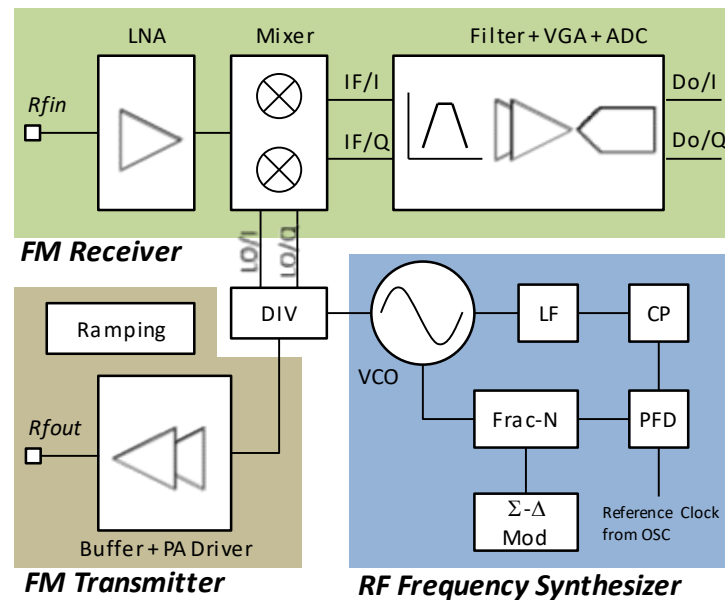

Figure 2. Radio Block Diagram
channel filtering, a variable gain amplifier (VGA) and a high precision analog-to-digital converter(ADC). The block diagram of the FM receiver is shown in Figure 2.
The transmitter is a single-ended amplifier including a buffer and a PA driver. The block diagram of the transmitter is shown in Figure 2. Due to FM modulation is of constant envelope, the amplifier works in saturated mode to save current consumption.
An RF synthesizer is implemented to generate local oscillator(LO) signals. It includes a voltage controlled oscillator(VCO), a fractional-N divider(frac-N), a phase-frequency detector(PFD), a charge pump(CP) and a loop filter(LF). The RF synthesizer is shared for RX mode and TX mode. The block diagram of the synthesizer is shown in Figure 2.